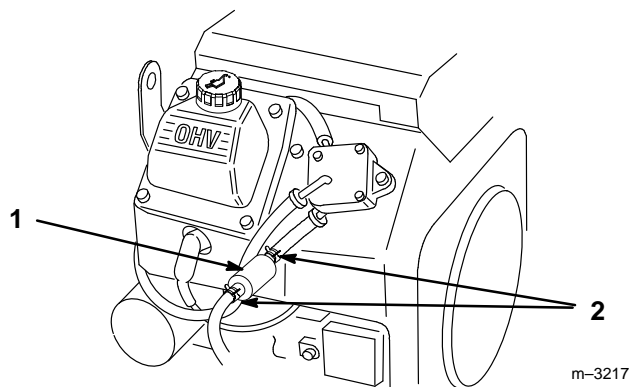

Figure 31
3. Squeeze the ends of the hose clamps together and slide them away from the filter (Fig. 31).
5. Install a new filter and move the hose clamps close to the filter (Fig. 31).